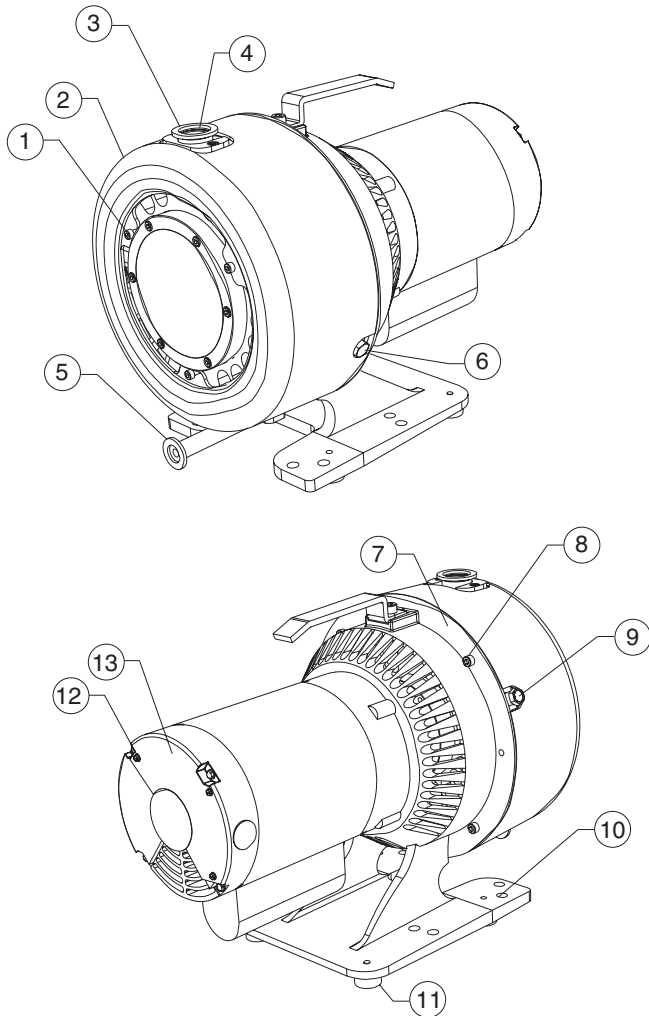

Figure 3 TriScroll 320 Vacuum Pump
2. Remove the three screws (item 12 in Figure 3 on page 5) that are holding the motor electrical cover (item 13 in Figure 3).
1. Remove three (3) M5 screws (item 1 on Figure 3 on page 5) that secure the cowling (item 2 on Figure 3) to the scroll module. Remove the cowling.
3. Remove the four (4) M6 screws (item 8 on Figure 3) holding the frame (item 7 on Figure 3) and scroll module together.
5. Rotate the module 90 degrees in either direction and realign the two (2) locating pins on the scroll module with the mating frame holes. Ensure that the rubber spider is still on the motor coupling and that the coupling teeth are properly aligned.
6. Rejoin the scroll module with the frame and install and tighten the four (4) M6 screws removed in step 3.
7. Reinstall the cowling using the three (3) M5 screws removed in step 1.